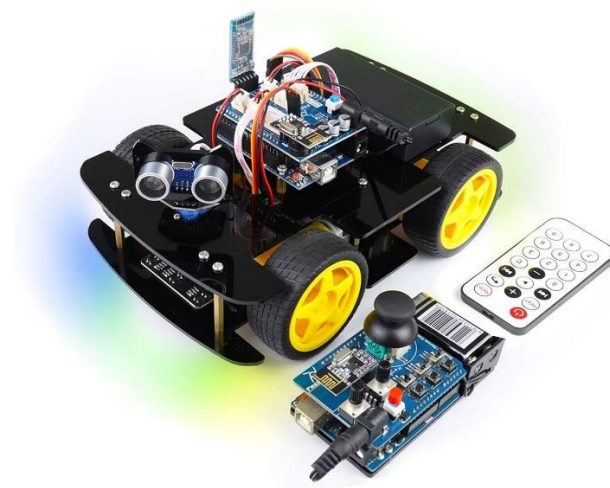

Figure 4: RC car used for LOS movement of the TAG
- RC car for LOS tag-movement (Figure 4)